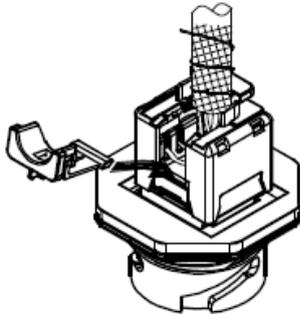

Fig.5.
6. Insert the hinged side-cover into the slot in the cap. (Fig.5) then snap the side-over shut.